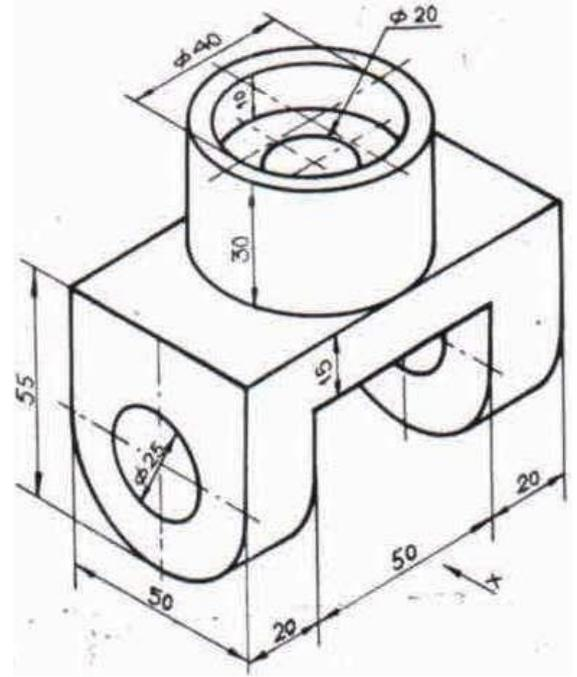

Figure .2(Q.5A OR)
Q.5 (a) Write step by step procedure to Draw 3D model for a given component as shown in figure 2 using AUTOCAD. 07